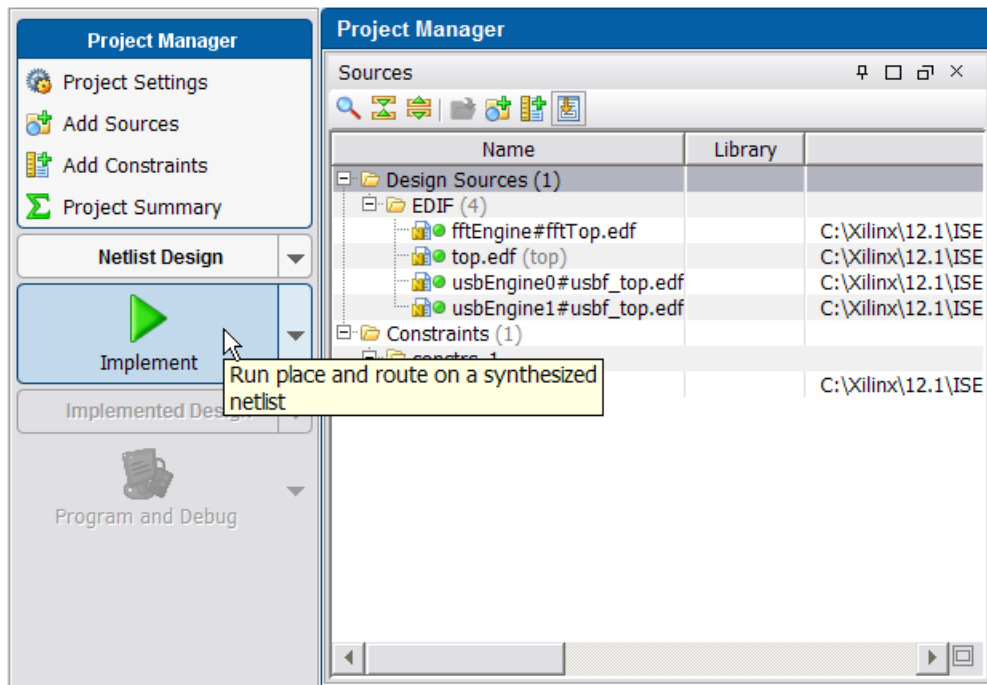

Figure 7: Implementing the Design
- 1-2-1.** From the Flow Navigator, click **Implement** (Figure 7). This launches the ISE implementation tools with a single click. The implementation tools use the current active strategy. The default is the "ISE defaults" strategy.